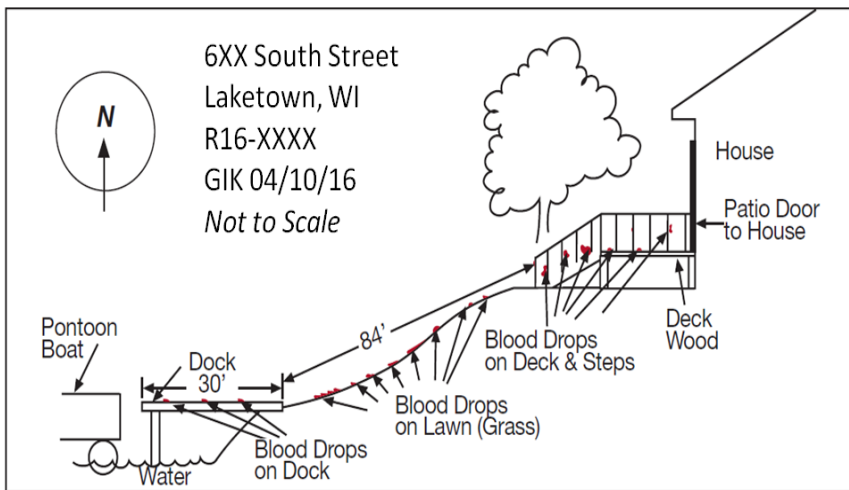

Fig. 4-2 Elevation sketch illustrating a blood trail.
- Elevation sketch – portrays a vertical plane rather than a horizontal plane. Examples include bloodstain patterns on vertical surfaces such as walls or cabinetry and bullet holes through windows (see Figure 4-2).